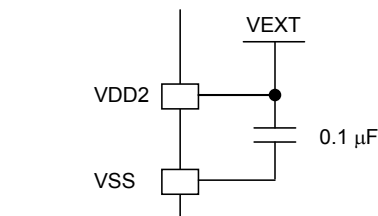

Fig. 2
- When the external supply voltage $V_{EXT} = 1.8\text{ V}$ to 3.6 V , connect VDD2 to VEXT directly as shown in Fig. 2.